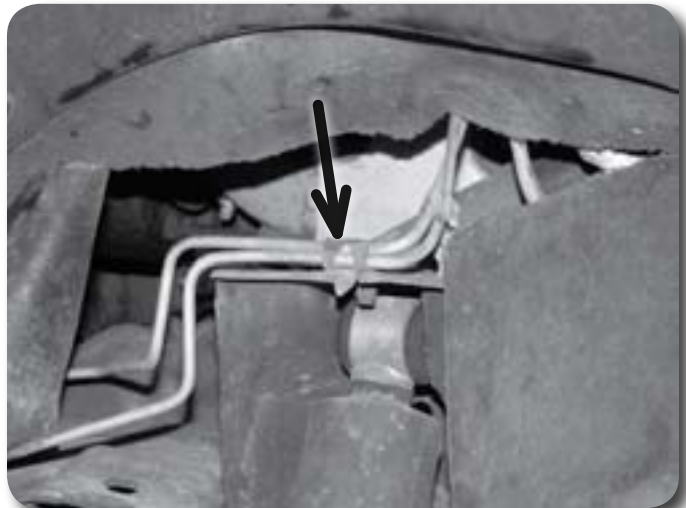

Figure 20
24. Remove the bolt mounting the brake lines to the driver's side shock mount Figure 20.